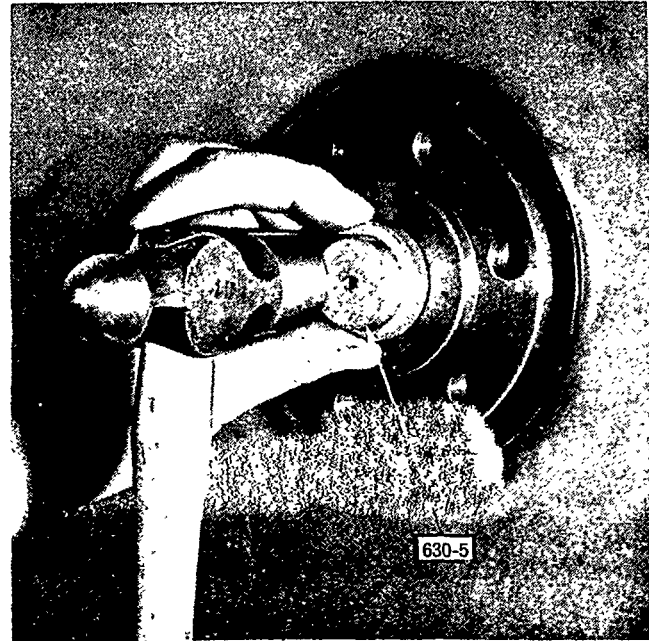

Figure 63
1. Lightly tap the bearing, baffle side facing outwards, into the flywheel or P.T.O. drive plate. Tool Number 630-5 used with the larger diameter against the bearing, Figure 63, is suitable for use on Ford 2000, 3000 and